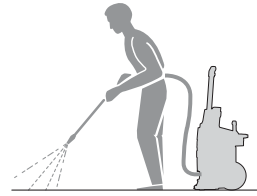

Fig. 16
- > Hold the spray gun (8) with both hands.
- > Direct the nozzle away from yourself towards the surface to be cleaned (Fig. 16).
- > Hold the spray gun (8) with both hands. Direct the water jet to the object to be cleaned and squeeze the trigger.